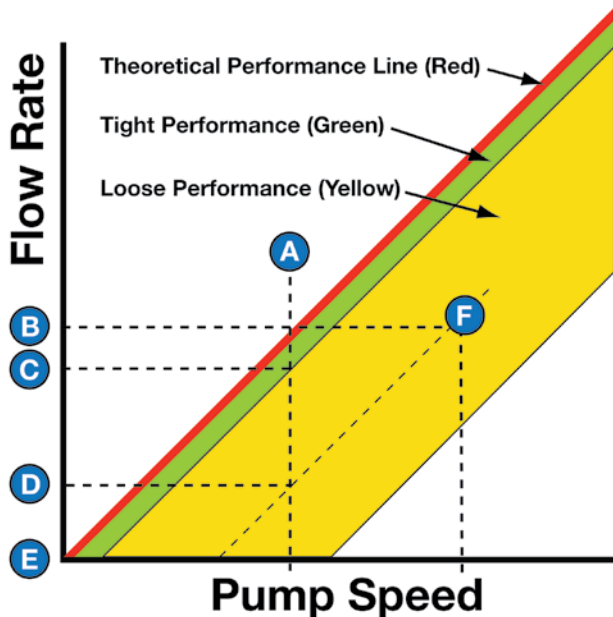
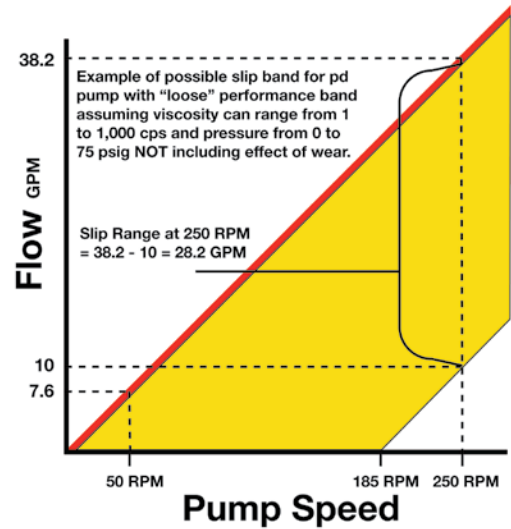
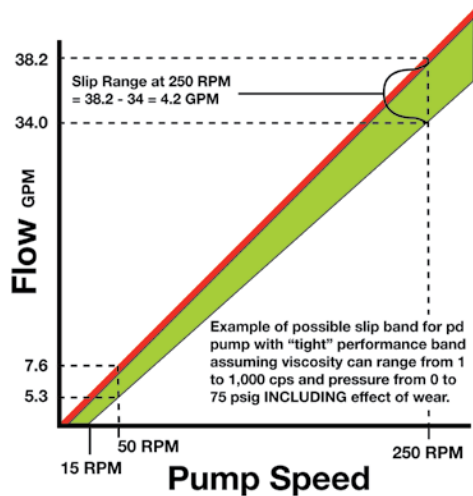

Figure 5: Comparative performance band
Figure 6: Example of pump curve with loose and narrow performance band
Figure 7: Pump curve with tight and wide performance band
To understand slip for traditional PD pumps, see Figure 5. It illustrates the possible loose-performance range (the yellow area) of a typical PD pump when operating in variable conditions (changes in viscosity, back pressure, temperature, and wear). This graph shows how flow for a given pump speed (A) can vary from the theoretical (intersection BA) to an extreme (intersection EA) which indicates no flow. This condition occurs in pumps with worn pumping elements, for example.
Even in non-extreme cases such as when needing a flow rate of (B), the pump would need to be accelerated from (A) to (F) in order to achieve the flow (B). This can prove to be an automation challenge and result in a reduction of reliability. If the automation system does not have a way to compensate for loss of flow and the pump remains at the same speed (A), the flow rate (D) would be inadequate. An actual curve for such a pump with 0.153 gallons/revolutions can be seen in Figure 6.
Figure 5 illustrates a tight performance band, which is shown as the green performance band range superimposed on the same graph. Even with large variations in pumping conditions within its published performance limits, the maximum variation in flow versus pump speed would be between (B) and (C) instead of (B) and (E), illustrated by the yellow loose-performance band. An actual curve band for such a pump can be seen in Figure 7. Both pumps (Figures 6 and 7) have a theoretical displacement of 0.15 gallons/revolution, but the curve in Figure 6 shows how loose the pump's performance is at 250 rpm, producing as much as 28 gallons/minute of slip while attempting to pump 38 gpm. The pump shown in Figure 7 has only 4 gpm of slip under the same conditions.
For an actual illustration of performance band width, refer back to Figure 6. Notice that a pump, in this case a typical lobe pump with a 0.153 gallon/revolution theoretical displacement, effectively has a narrow performance envelope. That is because under an arbitrary worst condition—in this case pumping 1 cP (water-like viscosity) fluid against 75 psig—the pump only begins to produce flow at 185 rpm. This means that speeds between 50 rpm to 185 rpm, which are considered good speeds for ensuring the long life of rotary PD pumps, are not available to the pumping process. The performance band is therefore narrow as it ranges from 185 rpm (instead of 0 rpm) to the maximum mechanical speed capability of the pump, or
In comparison, refer back to Figure 7, which shows the actual performance graph of a pump with a wide performance envelope. Notice that under the same conditions as Figure 6—pumping 1 cP product against 75 psig—flow begins to be produced at 15 rpm (instead of 185 rpm). In this case, on the low-RPM range, the pump in Figure 7 produces flow at a much wider range of RPMs than the pump in Figure 6.
The lobe pump curve shown in Figure 6 does not show how performance degrades as the pump wears. It is only a “snapshot” of the pump performance when it is new. This is the case with most PD pumps. If wear occurs in this pump, the manufacturer-supplied performance curve no longer applies and actual performance is unknown, unless verified in the field. In Figure 6, the point at which the pump begins to produce flow under wear conditions could be even greater than 185 rpm and prompt repairs.
In sharp contrast, the pump illustrated in Figure 7 compensates for wear by maintaining as-new clearances. Therefore, slip does not change, and the pump performance remains tight with a wide range of flow capabilities. Both the Blackmer® sliding vane pumps and Mouvéx® eccentric disc pumps share this phenomenon.